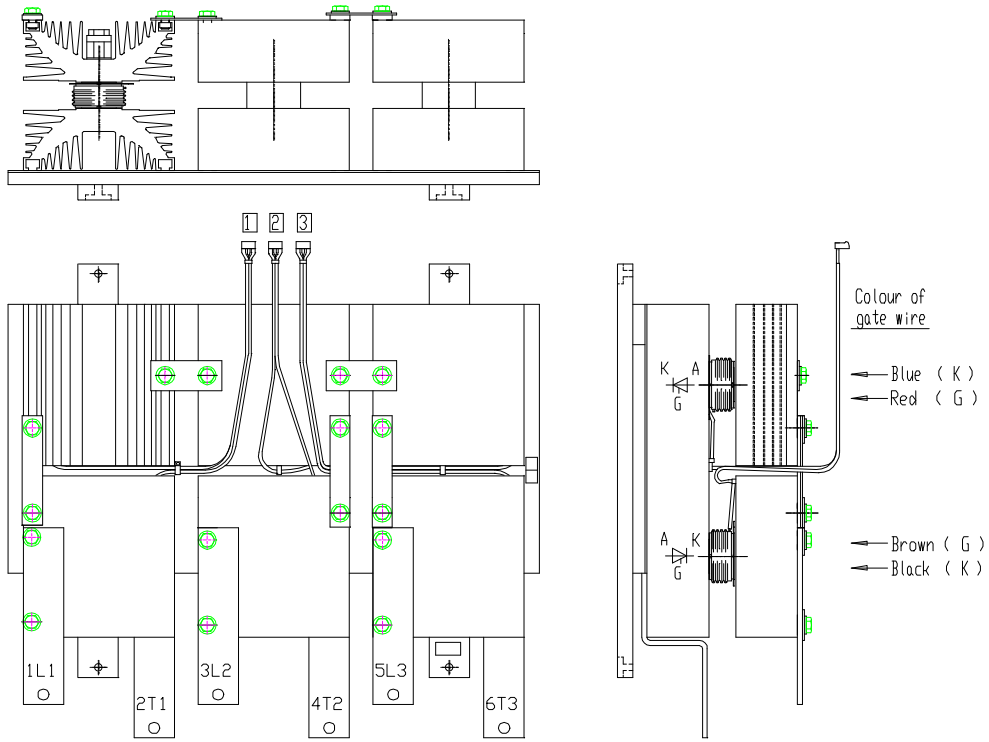

Fig. 7
- ◆ Place the semiconductor in the right direction. Follow the symbol and the assembly drawing (Fig. 7 page 7).
- ◆ Turn the component so that the gate wires point in the right direction. (See Fig. 7 Page 7).